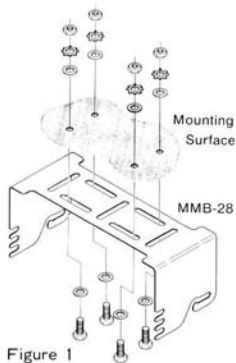

Figure 1
- (1) Use the mounting bracket as a template for positioning the mounting holes, after determining the proper location with sufficient clearance for the receiver. Use a 3/16" bit for drilling the holes. Secure the bracket with the screws, washers and nuts supplied, as shown in Figure 1.